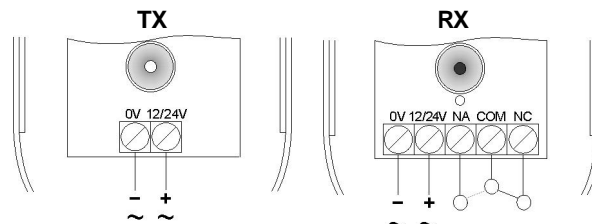

Fig. 2
## Terminal board connections: (fig. 2)
- Open the photocell box and connect the cables to the terminal board following the scheme (fig. 2).